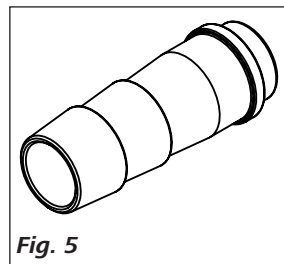

Fig. 5
- Hose olive NW 12 (2 pieces)                      see **Fig. 5**